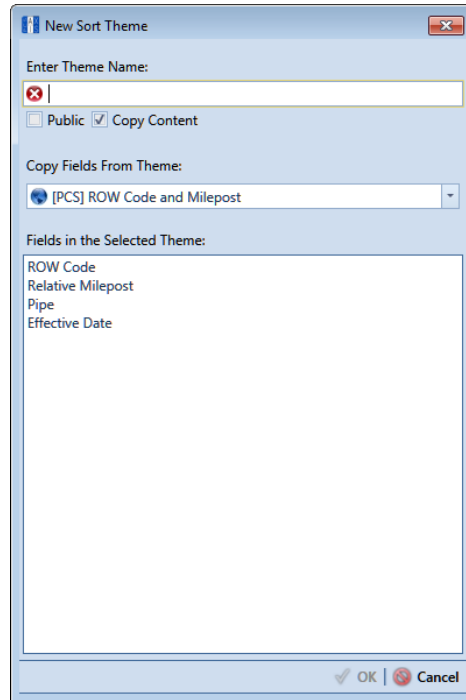

Figure 7-111. New Sort Theme
- 6 Click the **+** **Add** button to open the *New Sort Theme* dialog box (Figure 7-111).